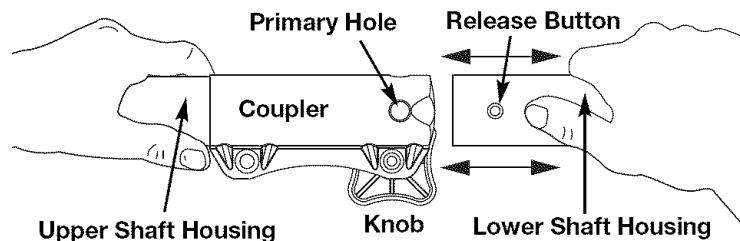

Fig. 2
- While firmly holding the upper shaft housing, pull the attachment or extension boom out of the coupler (Fig. 2).
- While firmly holding the attachment or extension boom, push it straight into the coupler (Fig. 2).
CAUTION: Lock the release button in the primary hole (Fig. 2) and securely tighten the knob before operating this unit.